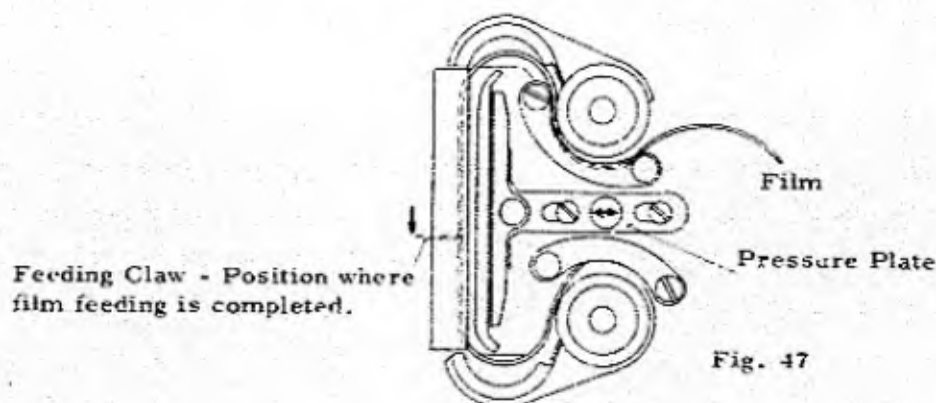

Fig. 47
- 1) Opening Sprocket Guide 33-6092 and Pressure Plate, insert the feeding claw into the perforation of the film (about 20 cm long). See Fig. 47.